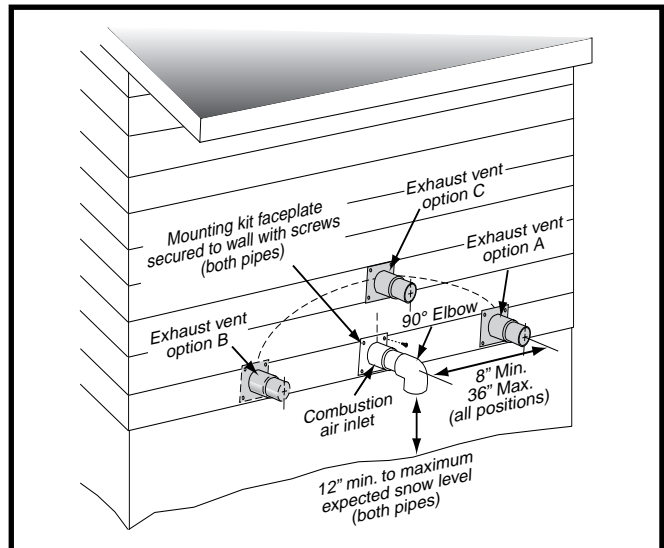
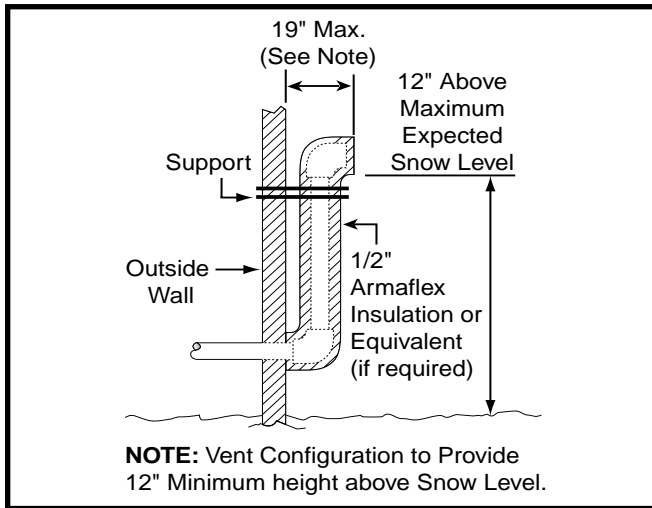

Figure 7. Inlet & Exhaust Pipe Clearances
Figure 9. Alternate Horizontal Vent Installation
- If a Direct Vent (2-pipe) system is used, the combustion air intake and the vent exhaust must be located in the same atmospheric pressure zone. This means both pipes must exit the building through the same portion of exterior wall or roof as shown in Figures 7 - 10 and Figure 36 (page 45).
- Vent and combustion air intake terminations shall be installed as depicted in Figures 7 & 8 and in accordance with these instructions:
- All minimum clearances must be maintained to protect building materials from degradation by flue gases as shown in Figure 7.
- When the vent pipe must exit an exterior wall close to the grade or expected snow level where it is not possible to obtain clearances shown in Figure 7, a riser may be provided as shown in Figure 9. Insulation is required to prevent freezing of this section of pipe. See Table 2 (page 14) for vent freezing protection.